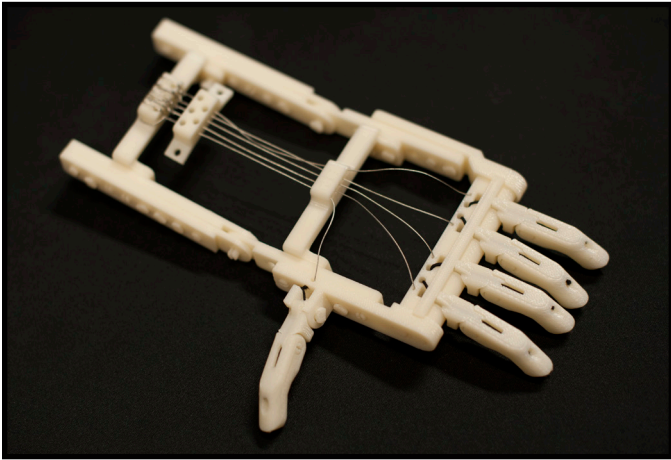

Figure 4.16 - 3-D Printed Prosthetic Hand - Image courtesy of U.S. Food and Drug Administration
2. One of the biggest advantages of 3-D printing is the ability to readily customize objects. While there are far-ranging applications, this can be especially important in medical applications such as prosthetics where a design will need to be adjusted to fit the patient. Traditionally, prosthetics are very expensive. However, 3-D printing can make a comparable model at a fraction of the cost. Hand prosthetics for children are widely available through a number of commercial companies. The image in figure 4.16 is an FDA-approved hand prosthetic.